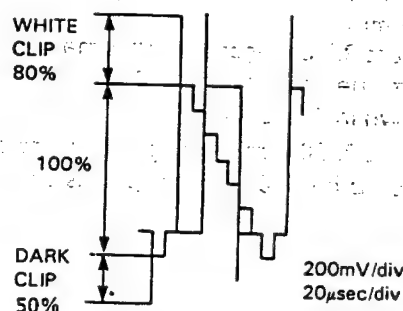

Figure 2-13.
3. Observing the output at TP201, adjust R224 (dark clip control) so that the dark peak overshoot be $40 \pm 10\%$. (See Fig. 2-13.)